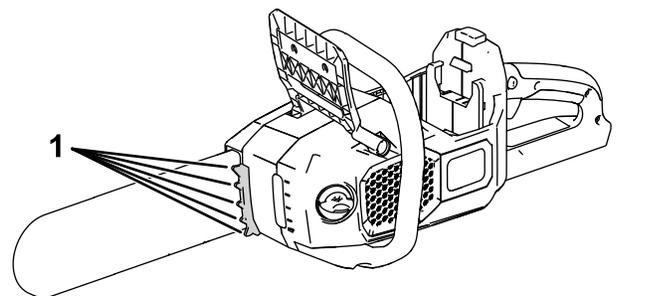

Figure 13
**Note:** You can use the bucking teeth (Figure 13) to apply light pressure.